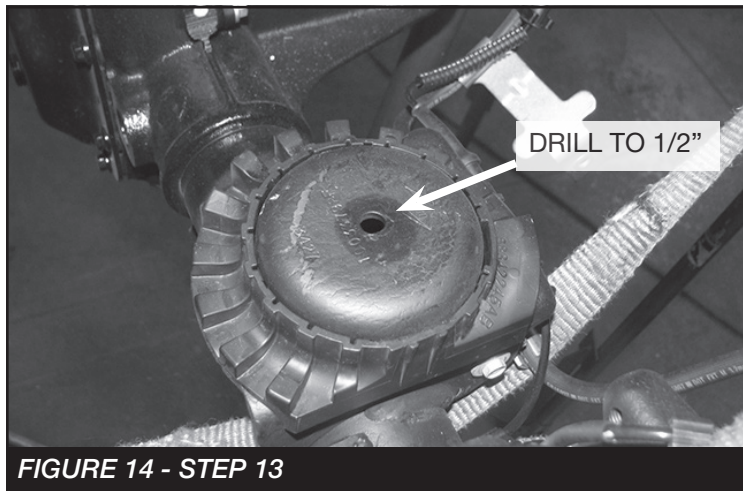

FIGURE 14 - STEP 13
12. On the factory coil spring perch. Use a drill with 1/2" drill bit and drill out the existing factory hole on both driver & passenger sides. **SEE FIGURE 14**